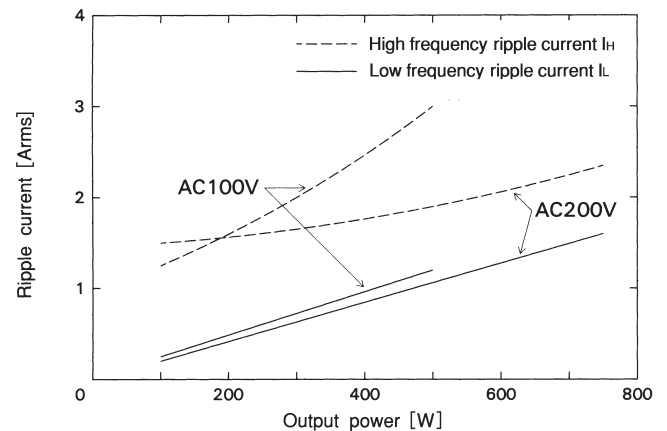

Fig.16.2 Output ripple current
Obtain the ripple current for low frequency and high frequency from Fig.16.2. Use Formula (3) to calculate the total ripple current. Use a capacitor with the ripple current rating above the resulting value. Since the correction factor of allowable ripple current frequency (K) varies depending on the capacitor, check the exact value in the catalog of the capacitor.
- IL : Low frequency ripple current (Refer to Fig.16.2) [Arms]
- IH : High frequency ripple current (Refer to Fig.16.2) [Arms]